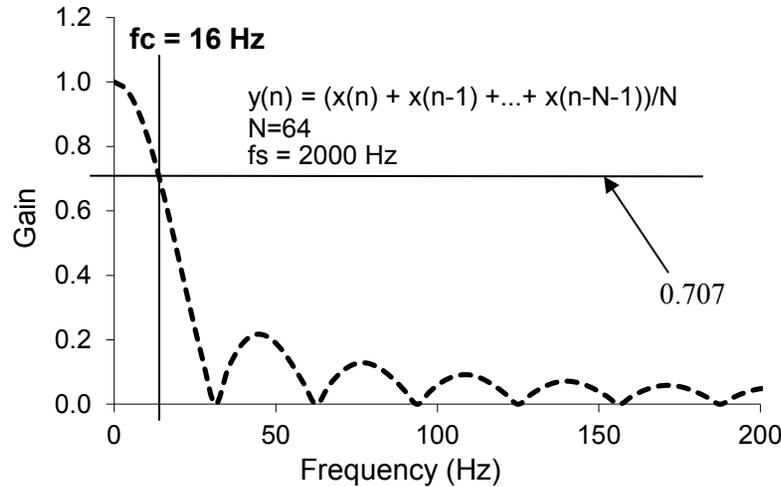

Figure 6A. Frequency response of averaging filter with  $N=64$ .
If you wish to learn more about the simple averaging filter, open the spreadsheet **FIR\_Digital\_LowPassFilter.xls** (you should have this in your folder when you opened up the zip file). You can change the sampling rate (fs) and filter size (N) and visualize the frequency and step responses. The two parameters you can adjust are highlighted in yellow. If the sampling rate is 2000 Hz, and the size N is 64, then the filter has a cutoff frequency (fc) of 16 Hz, see Figure 6A.